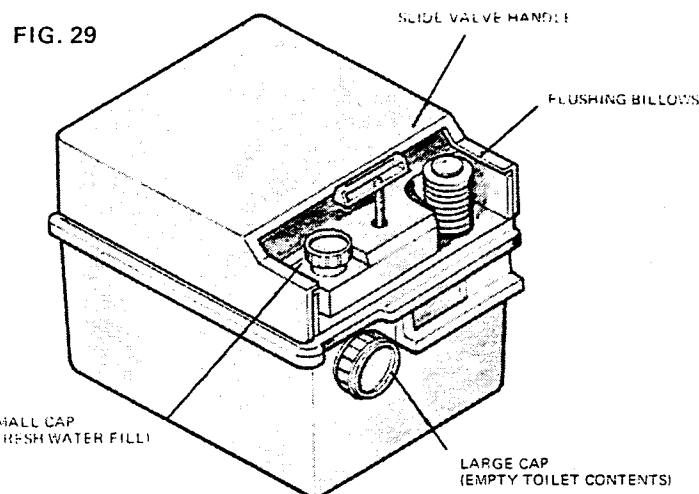

FIG. 29
**Preparation** — Lay the toilet down with its large cap up (FIG. 29). Remove large cap and pour in ½ bottle (4 oz.) (193 G) of AQUA KEM concentrate. Replace and tighten the large cap. Set toilet on its base. Remove